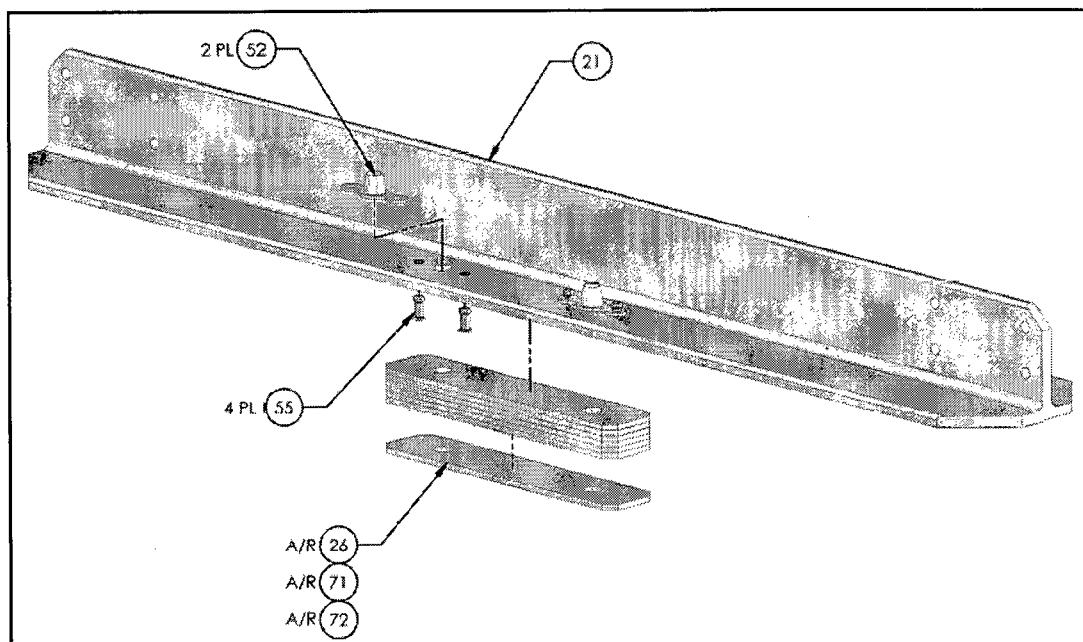

Figure 5.8: Nutplate and Shim Install for Tee
- 5.16 Uninstall Tee (F/N 21) and Clips from the airframe and install the Nutplates (F/N 52) and Shims (F/N 26) on the Tee, similarly to the Nutplate and Shim installation for the Support Angle, as shown in Figure 5.8.
Parts List for Figure 5.8: